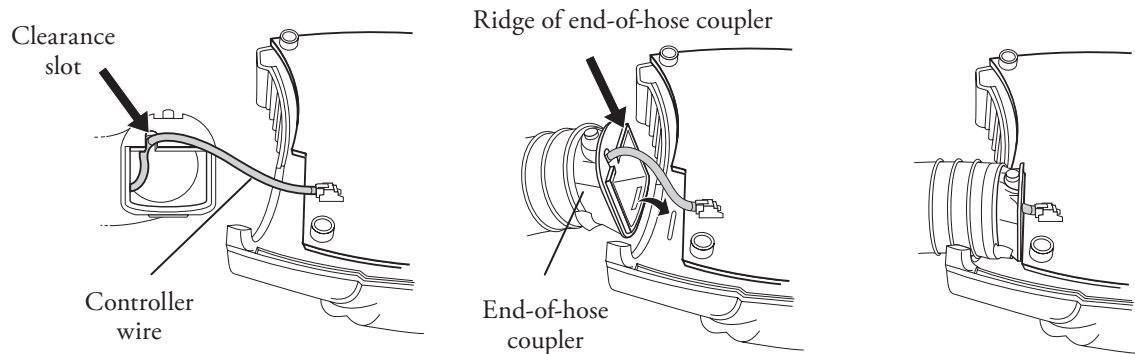

Figure 15. Inserting the end-of-hose coupler into the warming unit.
12. Making sure that the controller wire passes through the clearance slot, insert the end-of-hose coupler into the warming unit (see Figure 15).